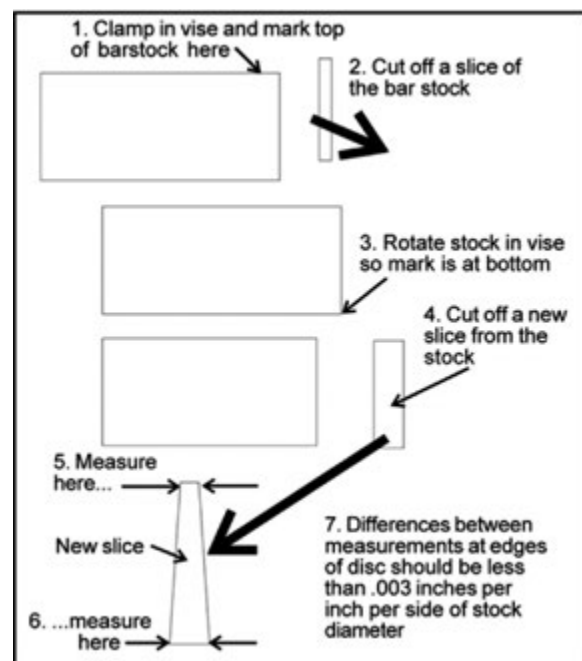

Figure 8-9
- 2) Loosen the bolt (Q, Figure 8-9) and adjust the assembly so that the rear bearing (R1) is approximately 0.002 to 0.003 inches from the back of the blade. Also, the inside bearing (R2) should very lightly contact the blade. Tighten bolt (Q).
- 3) Inside bearing (R2) is fixed. Outside bearing (R3) rotates on an eccentric shaft. Rotate the nut (S) with a 14mm wrench to adjust the eccentric bearing to a clearance of 0.001 inches from the blade.
- 1) With bar stock securely clamped in vise, make a cut through the bar stock. (See Figure 8-9)